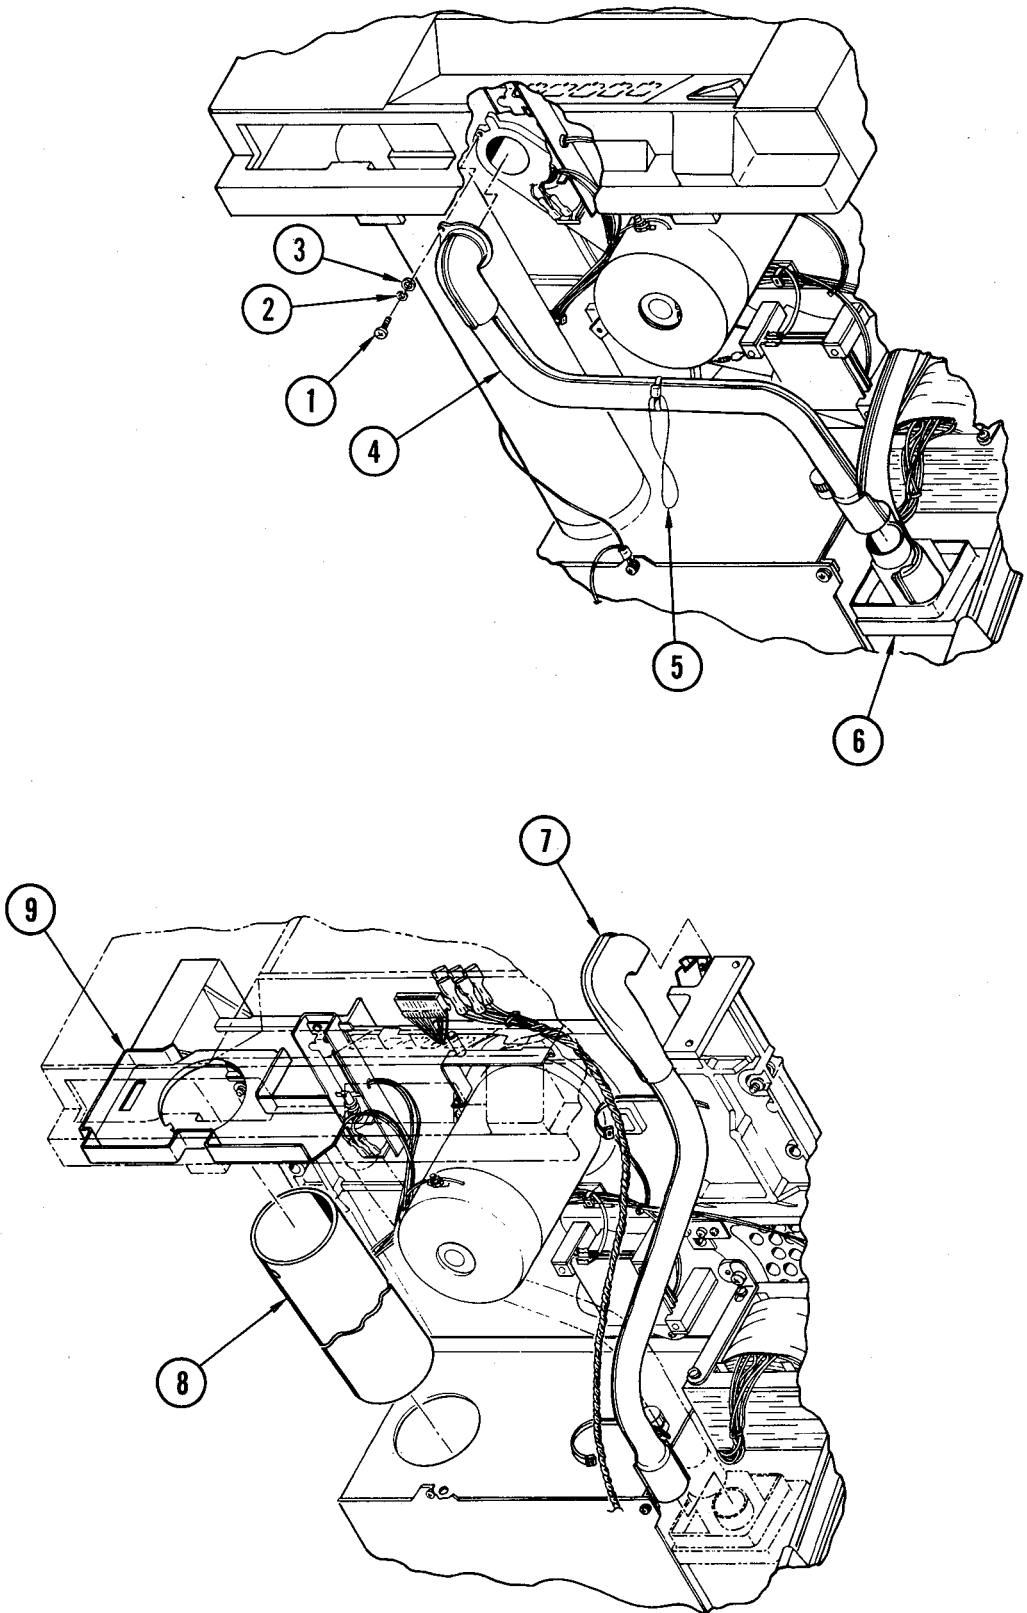

Figure 4-27. Top Plate Air Duct,
4-41. Removal and Replacement (Figure 4-27). Place the transport in service access position (paragraph 4-3). To replace the top-plate air duct, proceed as follows:
4-42. Front Panel Air Duct (Figure 4-27). Replace the front panel air duct as follows:
- 4-43. **Air Intake Tube. (Figure 4-27).** Replace the air intake tube as follows:
- c. Remove air intake tube (8) from power supply case by depressing tube slightly at hole (bottom of tube) to disengage tooth and slide forward into front panel adapter (9).